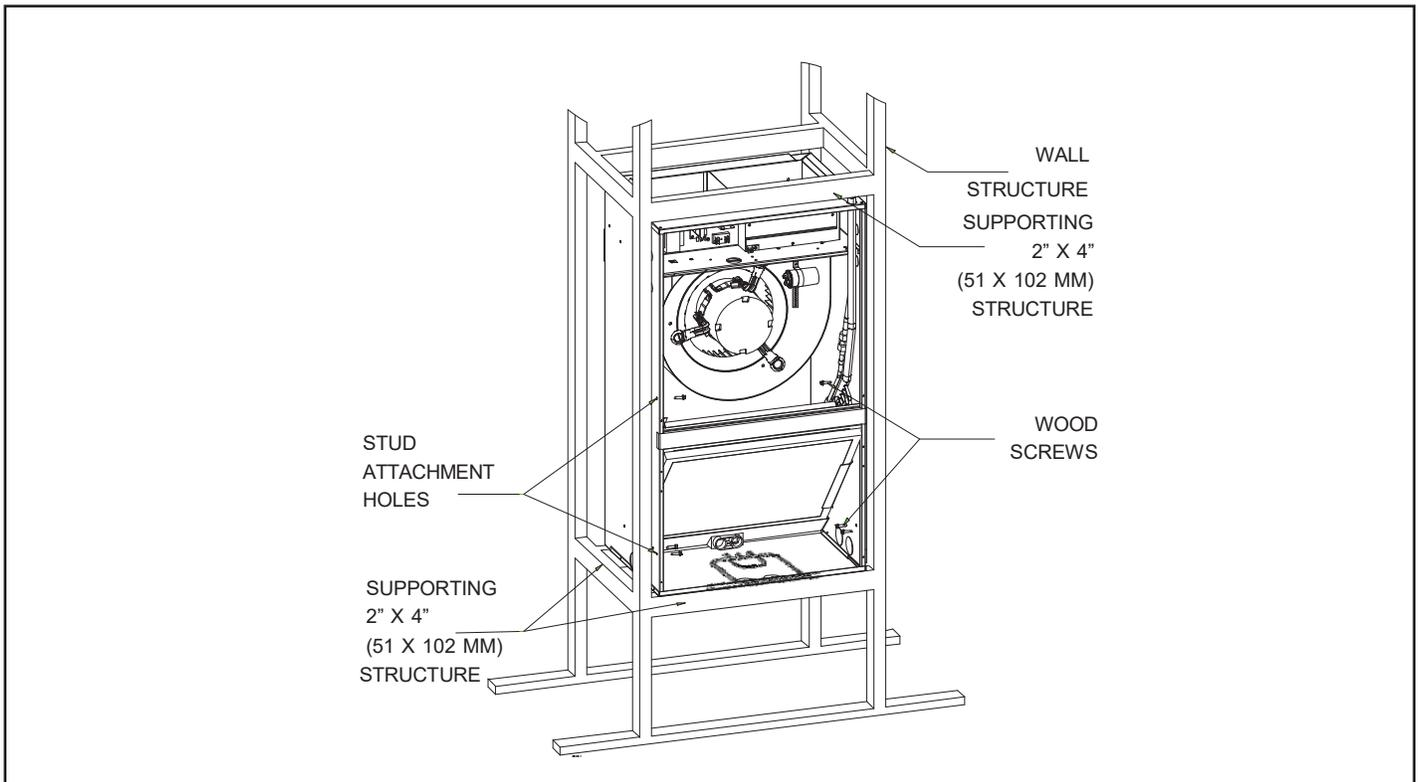

Figure 2. Frame Mount Installation
- These holes are used to mount the fan coil inside a frame structure (see Figure 2).